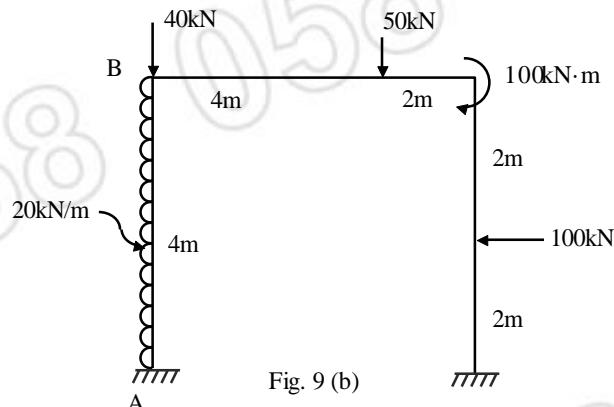

Fig. 9 (b)
- b) Find the global load vector of the rigid jointed frame shown in fig. 9 (b). Take external temp. = 20°C , Internal temp. = 50°C , $\alpha = 1 \times 10^{-5} / {}^\circ\text{C}$ $E = 2.54 \times 10^7 \text{ kN/m}^2$. Size of column = $230 \times 500 \text{ mm}$, size of beam = $230 \times 650 \text{ mm}$.